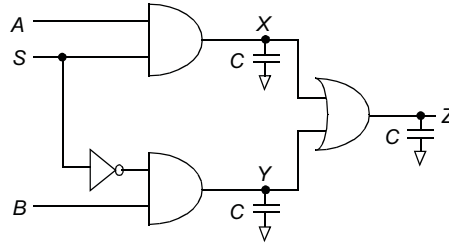

Figure 6.18 Two-input multiplexer
- 27. [C, None, 4.4] Figure 6.18 shows a two-input multiplexer. For this problem, assume independent, identically-distributed uniform white noise inputs.
- b. Find the exact signal (P_1) and transition ($P_{0 \rightarrow 1}$) formulas for nodes X, Y, and Z for: (1) a static, fully complementary CMOS implementation, and (2) a dynamic CMOS implementation.
- 28. [M, None, 4.4] Compute the switching power consumed by the multiplexer of Figure 6.18, assuming that all significant capacitances have been lumped into the three capacitors shown in the figure, where $C = 0.3$ pF. Assume that $V_{DD} = 2.5$ V and independent, identically-distributed uniform white noise inputs, with events occurring at a frequency of 100 MHz. Perform this calculation for the following: